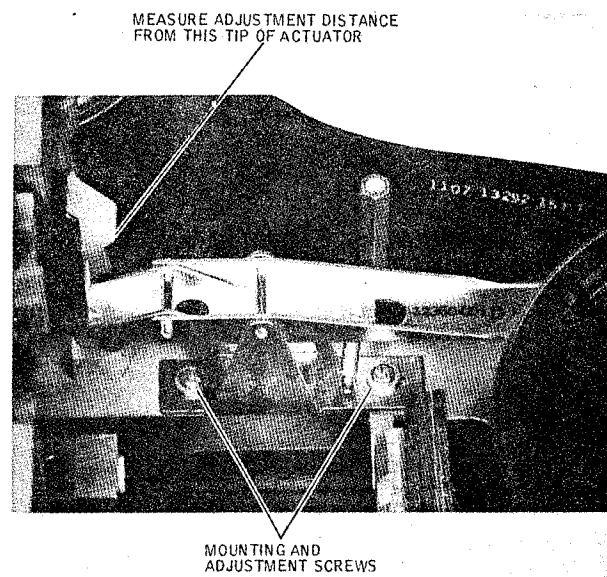

Figure 4-5. Spindle Lock Assembly.
If the Spindle Lock Assembly (Figure 4-5) cannot be adjusted properly replace assembly.
3. Remove the spindle lock assembly (Figure 4-5).